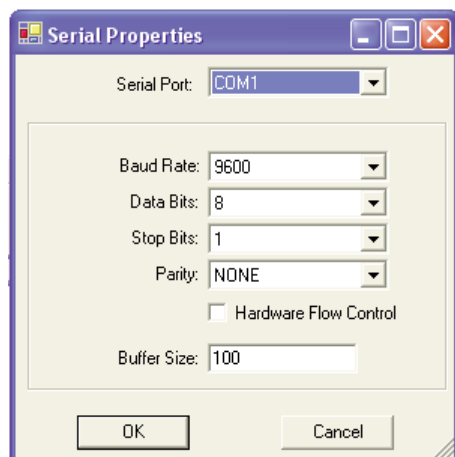

Figure 12.2
7. Click the **PROPERTIES** button. The Serial Properties dialog will open. This dialog is used to configure the Serial Port on the target. See Figure 12.2.